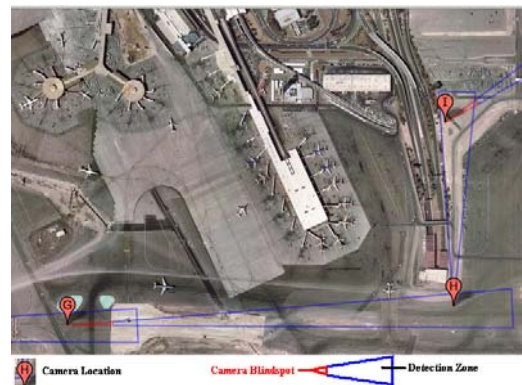

Figure 3: *SightSurvey sample design layout*
- NOTE: the SightSensor’s blindspot is indicated by a red area. An example of complete site coverage is illustrated in Figure 3.